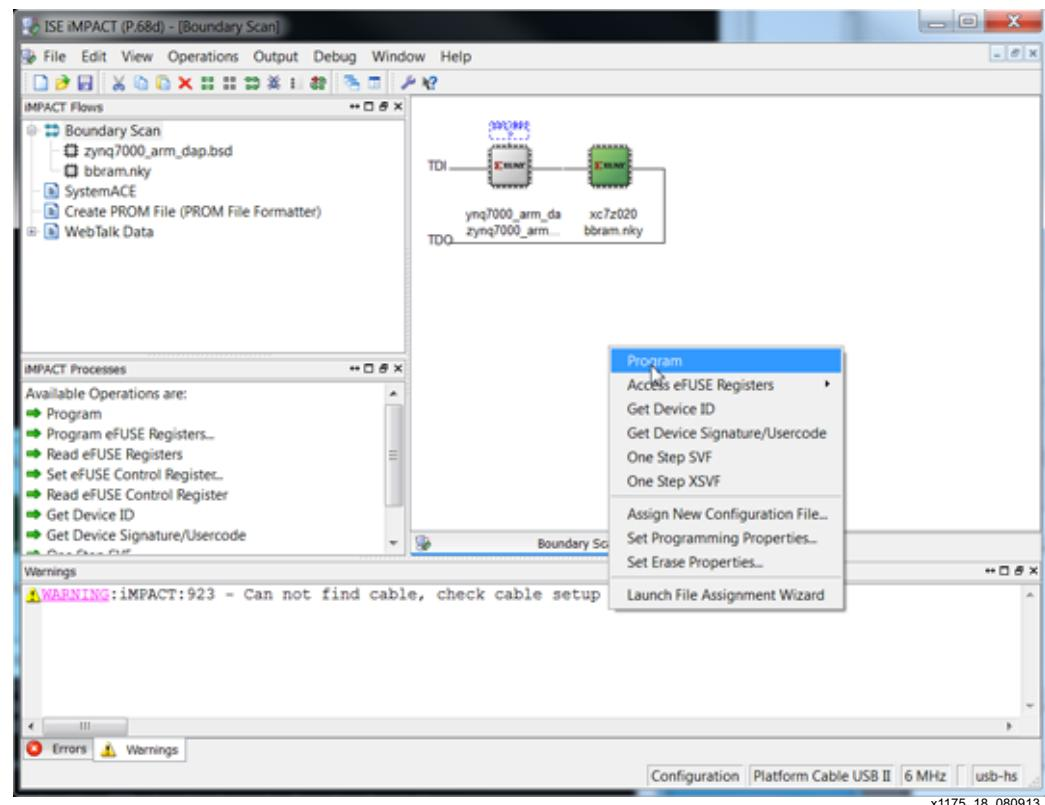

Figure 20: Using iMPACT to Program BBRAM Key
2. As shown in Figure 20, use iMPACT to program BBRAM key. Right-click on **xc7z020** and click **Program**. Select **Cancel** when the Device Programming Properties is displayed. iMPACT can also program the eFUSE key. If eFUSE and BBRAM keys are programmed, the Bootgen -encrypt efuse | bbram argument specifies which key is used. Bootgen writes the key source to the Boot Header region of the image. At power up, the BootROM code reads the Boot Header to determine which key source to use. The eFUSE control register is also programmed with iMPACT.
An alternative to using the iMPACT GUI is to run iMPACT from the command line as shown in Figure 20. Edit loadkey.cmd to use the correct key file.